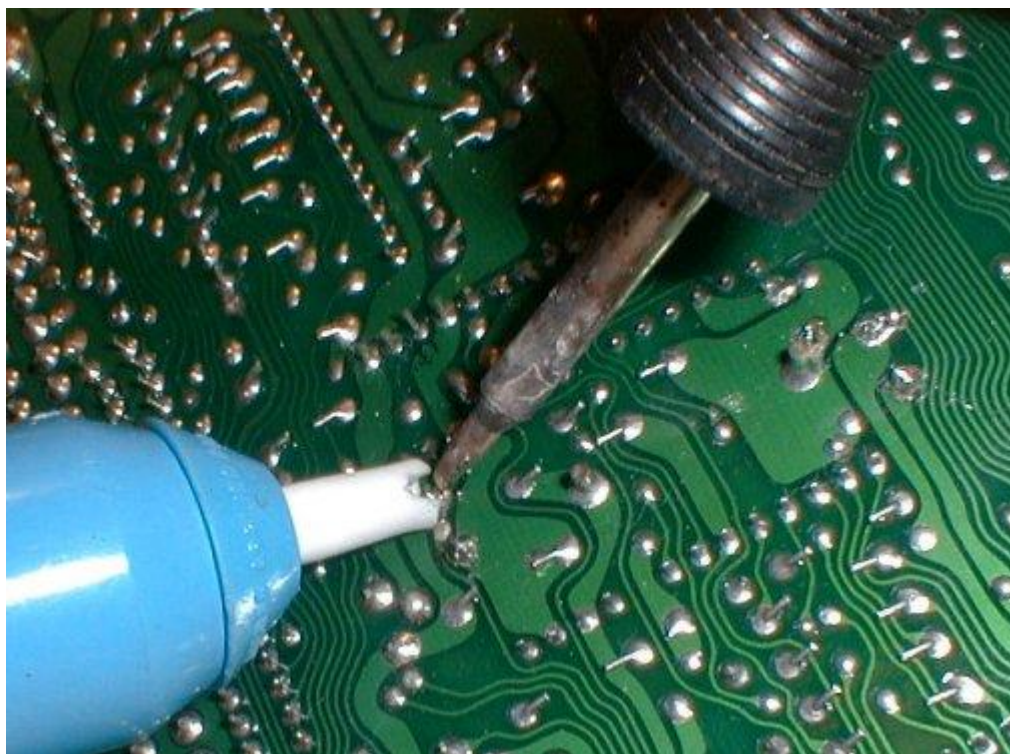

Figure 4
8. **Suck the Solder.** **Figure 4** shows the relatively mundane task of sucking out the solder. Make certain that the solder is nice and hot and is flowing well before you fire the trigger of the sucker. If you do it right, the solder will be sucked off the top layer of the board as well.